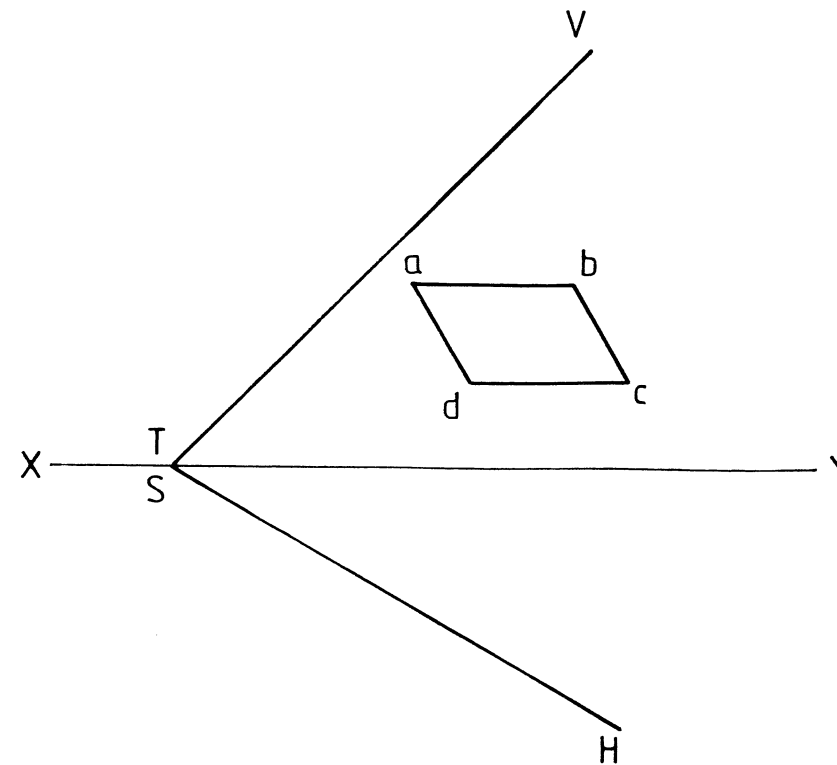

FIG. 1.2
- 1.2 Determine the top view of plane figure ABCD lying in the oblique plane in FIG.1.2.
- 1.2 Bepaal die boaansig van vlakfiguur ABCD wat op die skuinsvlak lê in FIG. 1.2.